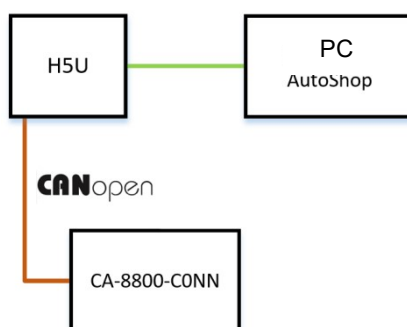

Figure 5-6-1 Communication connection diagram
1. Communication connection diagram, as shown in Figure 5-6-1 shown.